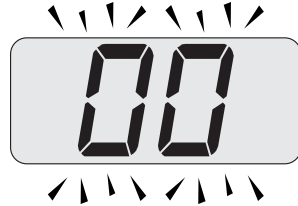

Fig. 7.19
- Press keys 15 and 17 (Fig. 7.16) at the same time until the value of parameter 15 (Fig. 7.19) is displayed on the LCD display.